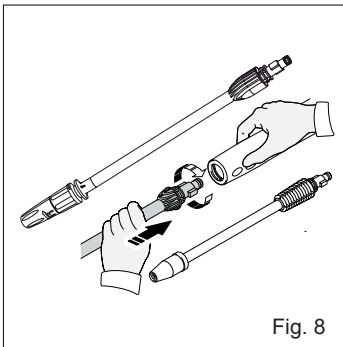

Fig. 8
- While the spray gun is in the locked position, insert the high/low nozzle lance or turbo nozzle into the end of the spray gun by inserting and pushing together turning clockwise simultaneously. To remove push together and turn counter clockwise (Fig. 8).